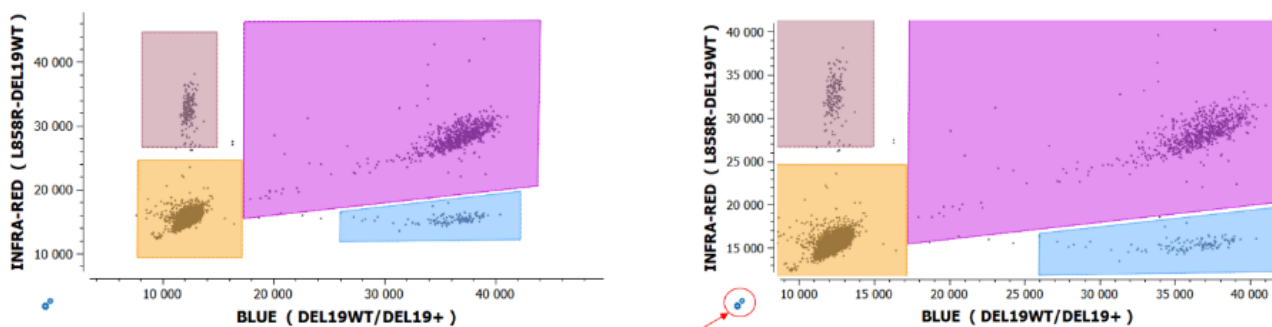

Figure 4: The Crystal Miner software 2D dot plot for data visualization and analysis.
- Go to the menu “ANALYZE DATA > Plots & Populations > 2D dot plot”. If needed, double click on the graph to adjust the axis scales, and if not sufficient click on the blue gear below the 2D graph (indicated by the red arrow in Figure 4 below) to manually enter the desired value.